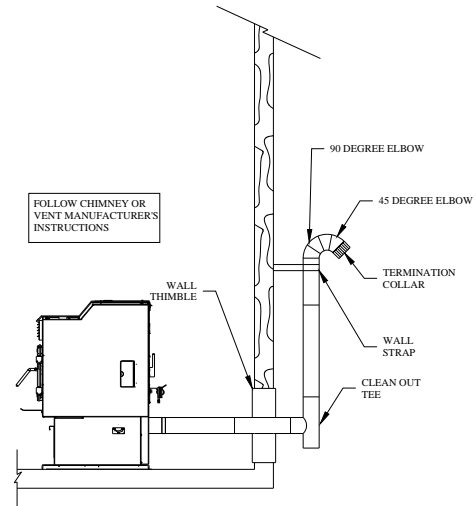

Figure 7
A. HORIZONTALLY THROUGH WALL (Refer to Figures 7, 8, or 10)